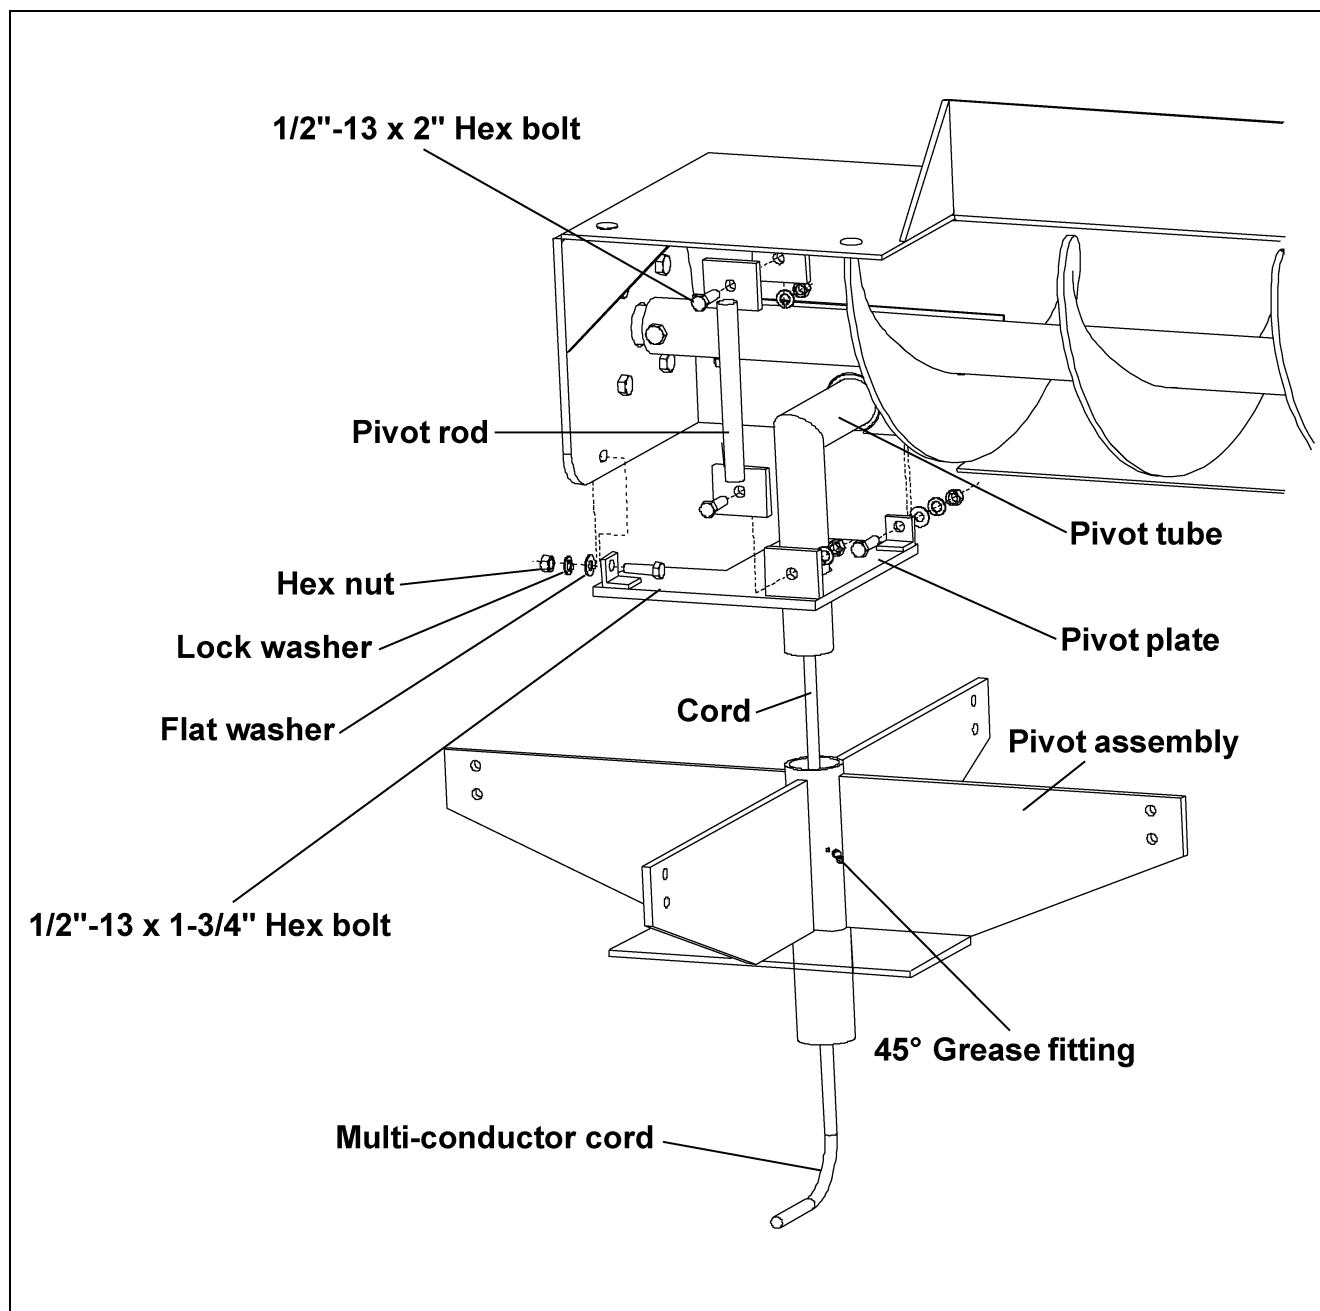

Figure 5AJ
7. Screw the 45° grease fitting into the pivot assembly pipe. (See Figure 5AJ.)
8. Connect the 1" x 48" liquid-tight flex conduit to the pivot tube using one 1" conduit coupling and one 1" liquid-tight flex conduit coupling. *(See Figure 5AK.)*